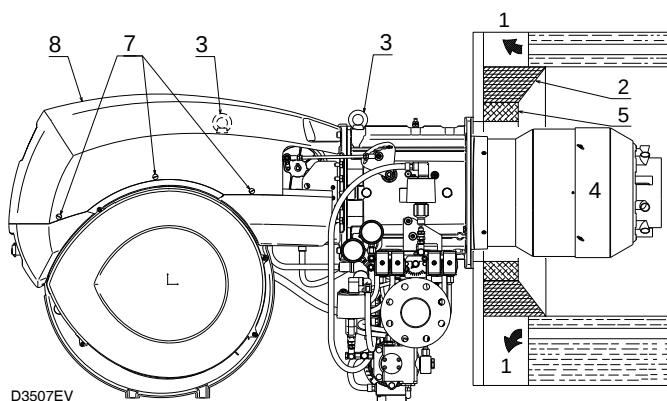

Fig. 12
For boilers with front flue passes 1) (Fig. 12) or flame inversion chambers, protective fettling in refractory material 5) must be inserted between the boiler fettling 2) and the blast tube 4).
For boilers having a water-cooled front the refractory fettling 2)-5)(Fig. 12) is not required unless it is expressly requested by the boiler manufacturer.
Prepare an adequate system of hoisting by hooking onto the rings 3) (Fig. 12).
- Slip the thermal protection (standard equipment) onto the blast tube 4) (Fig. 12).